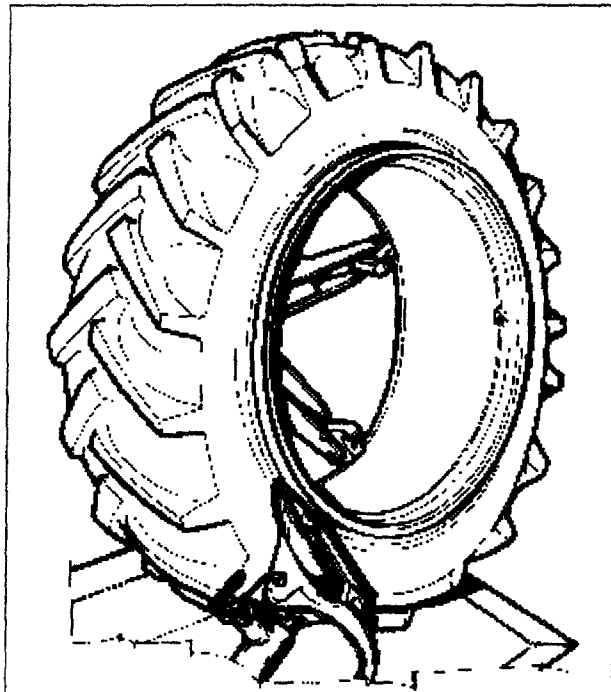

Fig.44
3. Break the outer bead in the same way, paying attention not to damage the valve stem (Fig.44).